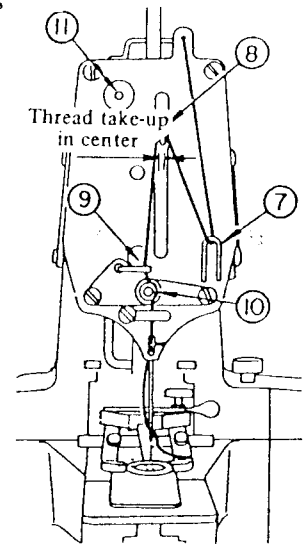

Fig. 6
- (i) Lightly tighten the needle bar bearing block and thread guide clamp screw, and after installing the face plate, adjust so that the bearing block and thread guide comes to the center of the machine arm front cover slot (Fig. 6) and then tighten the set screw.